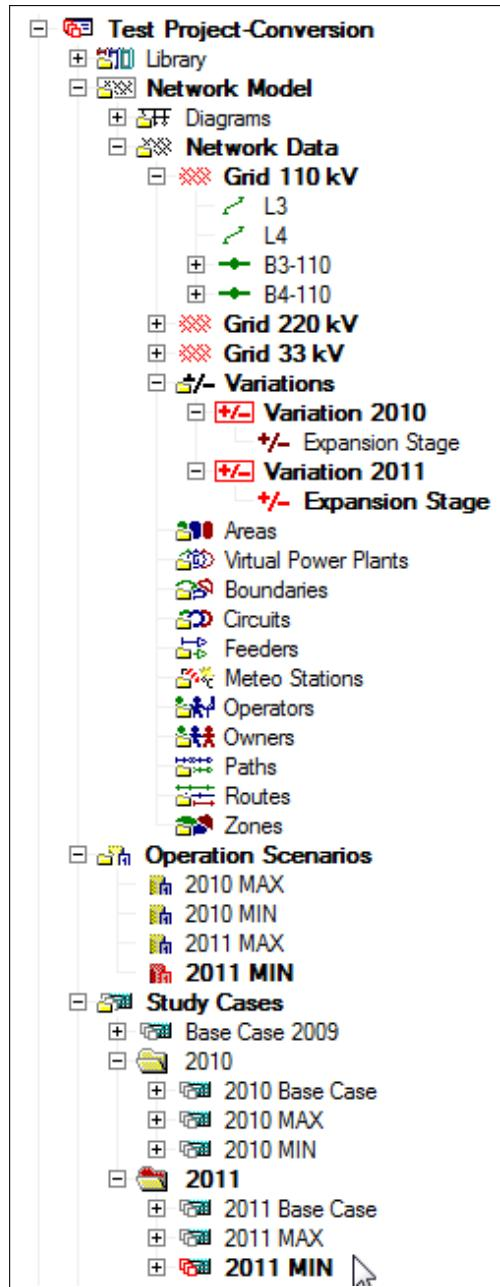

Figure 17.9.3: Resulting Project Structure
6. After converting System Stages “2010 Base Case” and “2011 Base Case” (with Network Data modifications) to Variations, and System Stages “2010 MAX”, “2010 MIN”, “2011 MAX”, and “2011 MIN” (with operational modifications) to Operation Scenarios, the Variations and Operation Scenarios are assigned to Study Cases. Figure 17.9.3 shows the resulting project structure for this example, where all System Stages have been converted to Variations and Operation Scenarios.